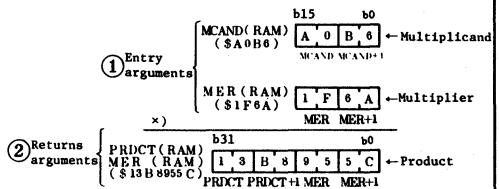

Fig. 1 Example of MUL execution
(b) Fig. 1 shows example of MUL execution.
If entry arguments are as shown in part ① of Fig. 1, multiplication result is stored in PRDCT (RAM) and MER (RAM) as shown in part ② of Fig. 1.